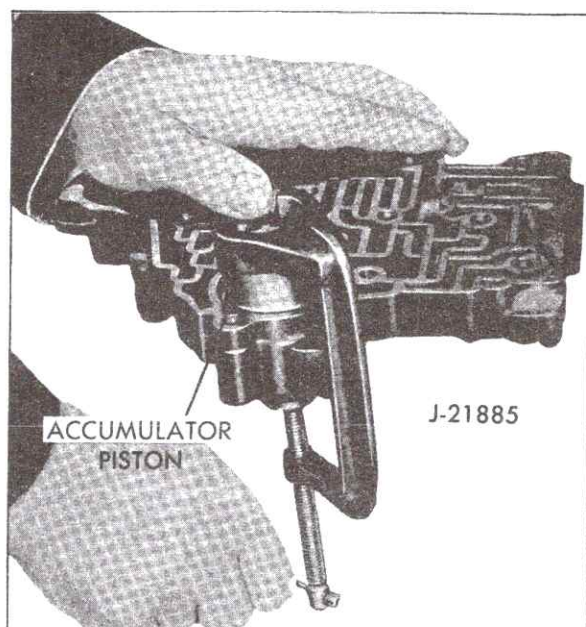

Fig. 7-51 Removing Front Accumulator Piston
3. Install Control Valve Accumulator Piston Installer, J-21885, on accumulator piston, compress piston and remove E-ring retainer, Fig. 7-51.